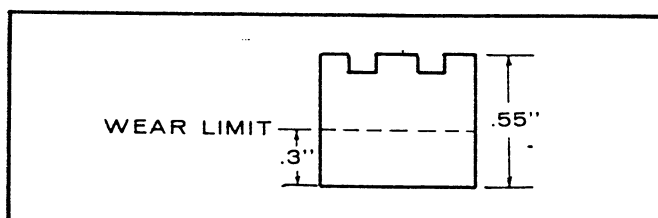

FIGURE 44. BRUSH WEAR LIMIT
8. **Inspection of Brushes.** When brushes are worn more than .3" they are to be replaced. Figure 44 shows the wear limit. See that the brushes move smoothly in the brush holders.